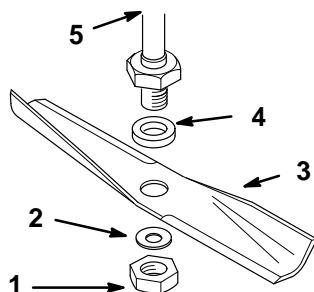

Figure 1
6. Install the thick washer, blade, thin washer, and the blade nut (Fig. 1).